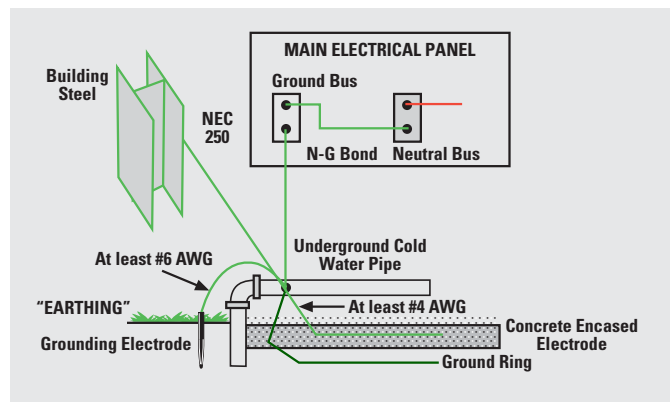

Fig. 8 - Premises Grounding Technique - Single Point Ground
- A single point ground as illustrated in Figure 8, is preferable to multiple grounds due to noise considerations.